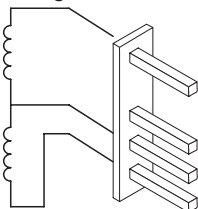

Figure 11.11
- 3 Measure the electrical resistance between the connector pins of the on-off operators as illustrated in Figure 11.11.